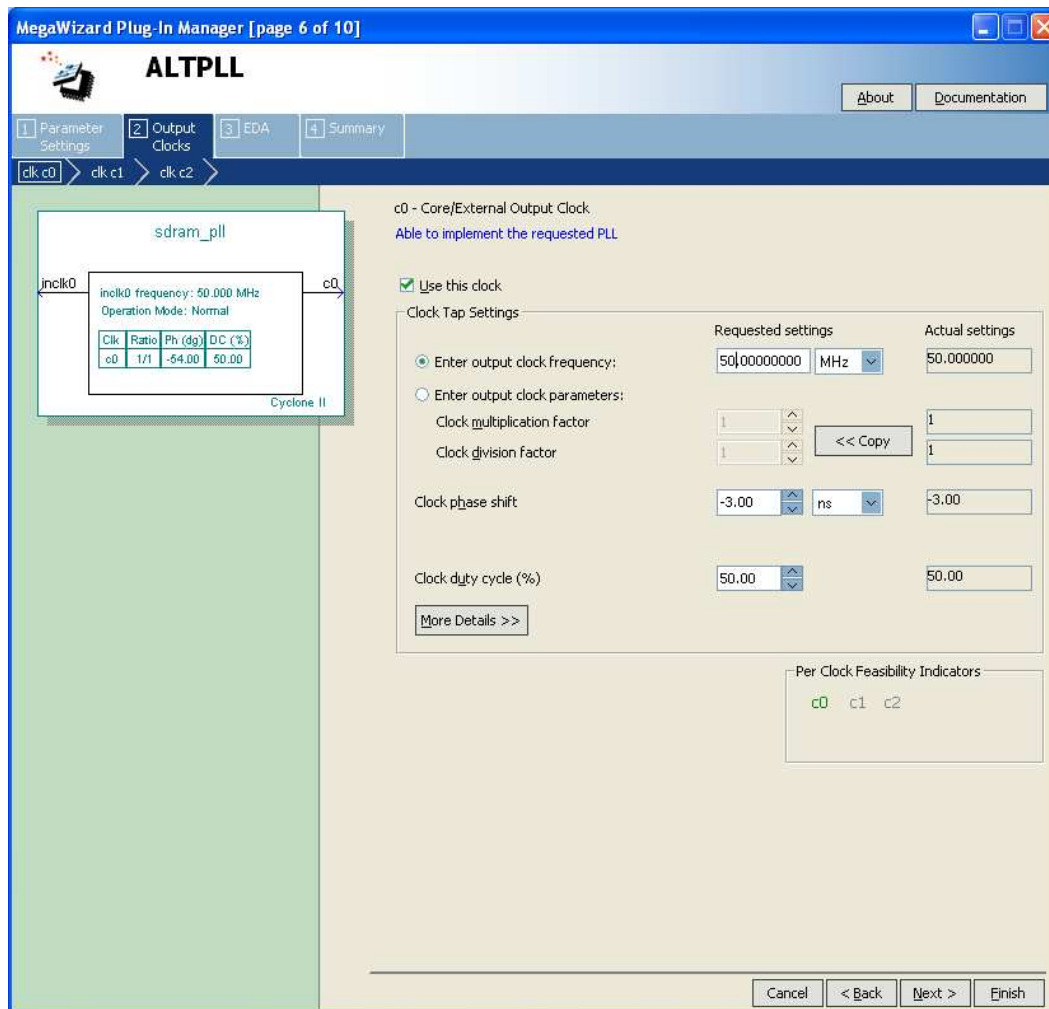

Figure 15. Specify the phase shift.
4. We are interested only in the input signal *inclk0* and the output signal *c0*. Remove the other two signals shown in the block diagram in the figure by de-selecting the optional input *areset* as well as the locked output, as indicated in the figure. Click **Next** on this page as well as on page 5, until you reach page 6 which is shown in Figure 15.